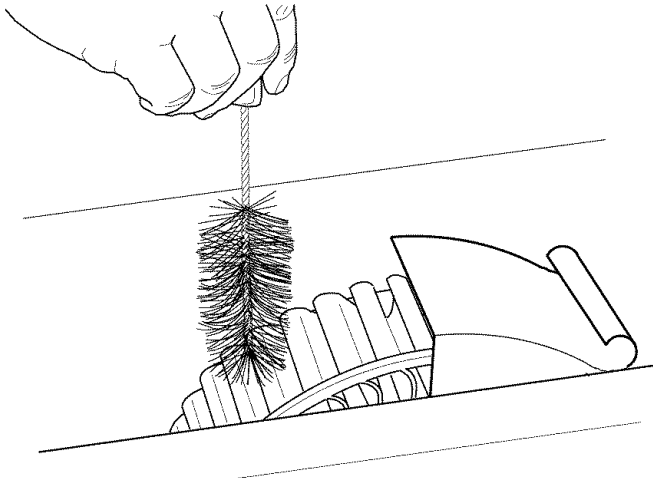

FIGURE 31 — CLEANING INDOOR FAN AND FAN SCROLL
5. Bend a soft, spiral wound, long bristle brush to conform to the inner curve of the blower wheel blades. See Figure 31.